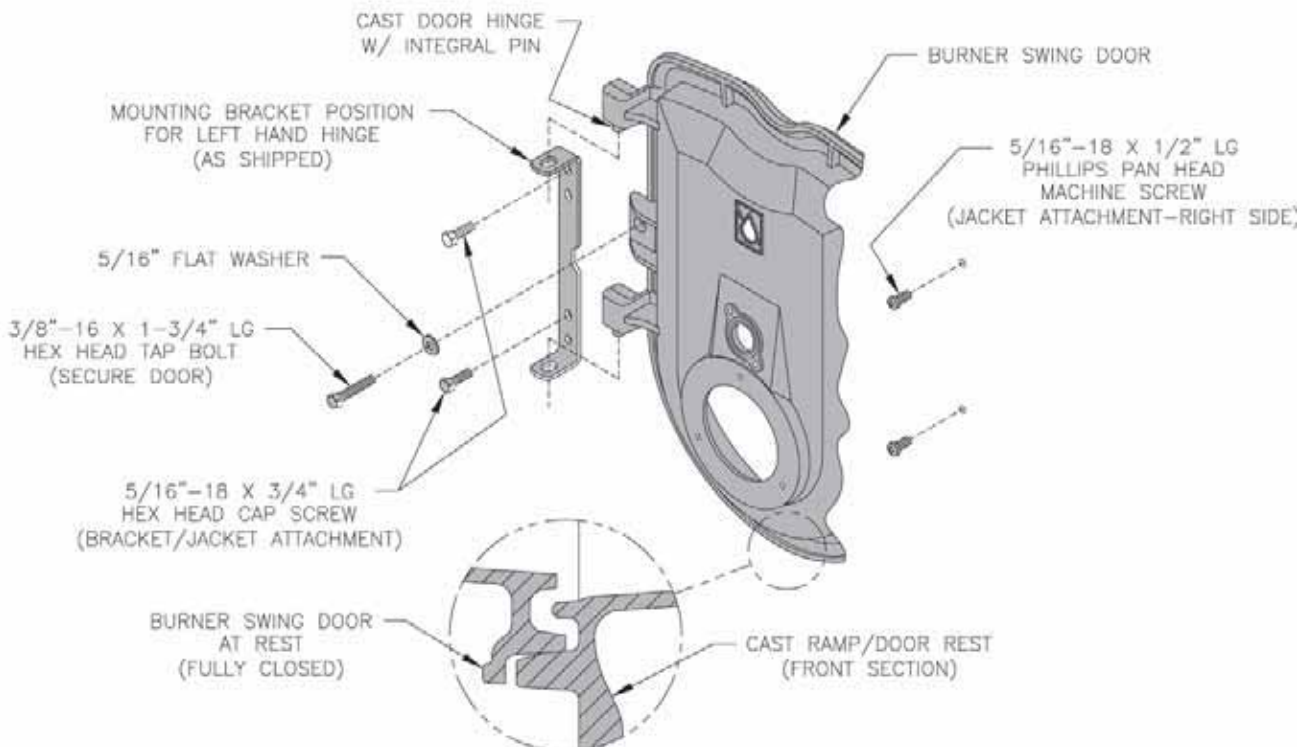

Figure 15: Partial Front View - Burner Swing Door Mounted to Boiler - Fully Closed and Secured
Throughout this manual you will be instructed to open and close Burner Swing Door for various reasons. There is a proper and improper method of closing and securing the door opened for front jacket panel installation, inspection, cleaning or field service. Refer to Figures 15 thru 17 and paragraphs C "Jacket Front Panel Installation", and, E "Closing/Securing Burner Swing Door" for details.
- b. Lift door upward into the build-in cast ramp/door rest (protruding from the bottom of the front section casting – see Figure 15).